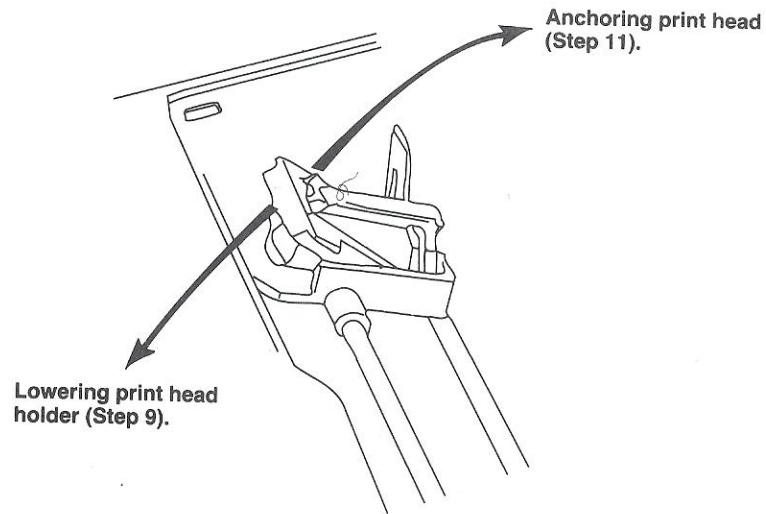

Figure 2-5. Inserting the Print Head
9. Lower the print head holder as shown in Figure 2-5.